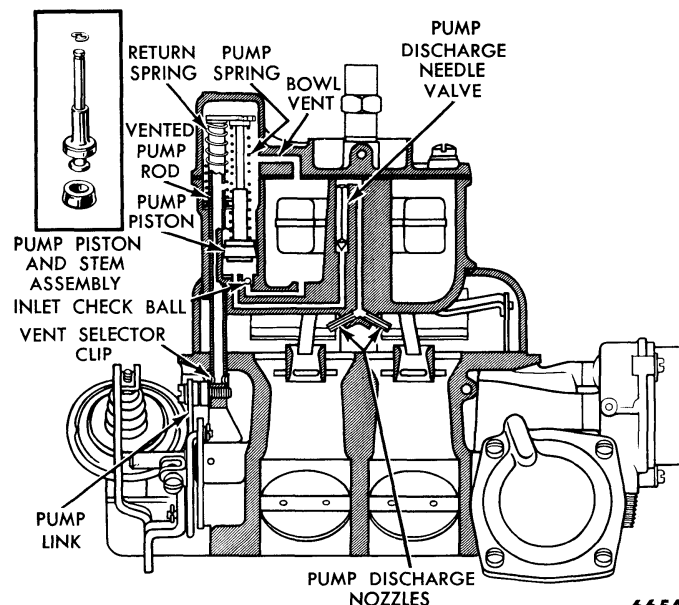

Fig. 57—Accelerating Pump System
(6) **ACCELERATING PUMP SYSTEM.** Upon acceleration, engine response would not be instantaneous unless some means were provided to supply an immediate amount of fuel during the short interval of time required for the other fuel systems to begin operating. The accelerating pump, which is connected by a link to the throttle lever, provides this immediate supply of fuel during acceleration periods (fig. 57).